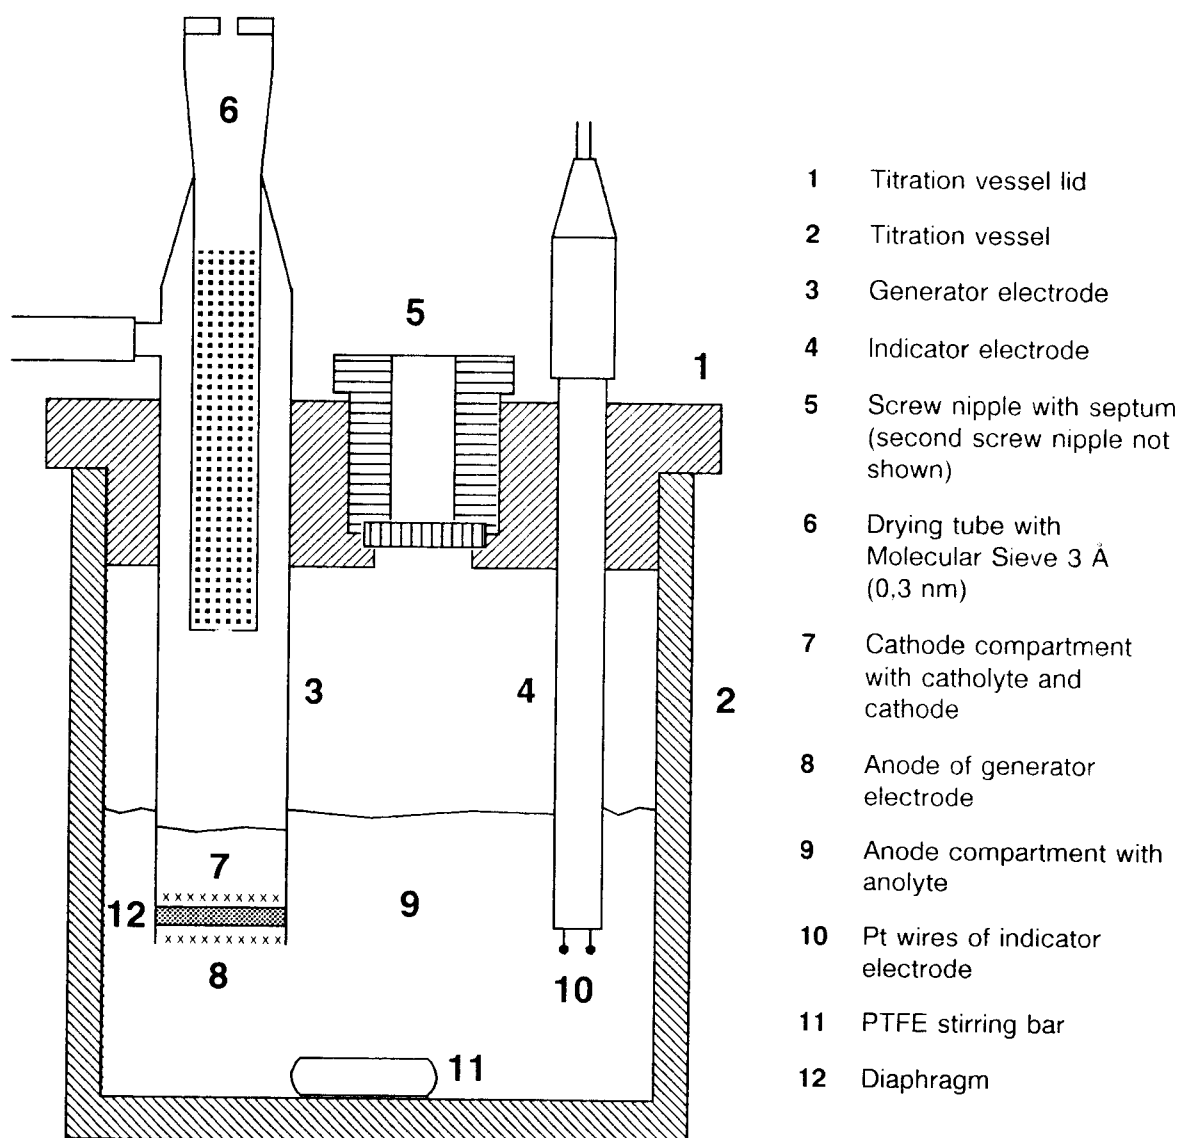

Fig. 3: Assembly of measuring cell with diaphragm
*) Reagents for coulometric Karl Fischer water determination using a cell with diaphragm consist of an anode solution (anolyte), which is filled into the anode compartment, and a cathode solution (catholyte), which is filled into the cathode compartment (see also Fig. 3).